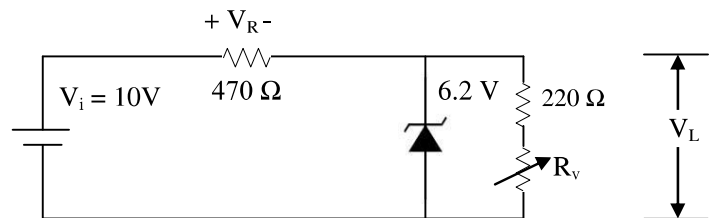

Fig. 4: Circuit with variable load
4. Calculate  $R_{Lmin}$ ,  $R_{Lmax}$ ,  $I_{Lmin}$  for  $I_{Lmax}$  for  $I_{Zmax} = 7.2\text{mA}$  and 10 V supply voltage in Fig. 4.
3. Now, connect the circuit as shown in figure 4.